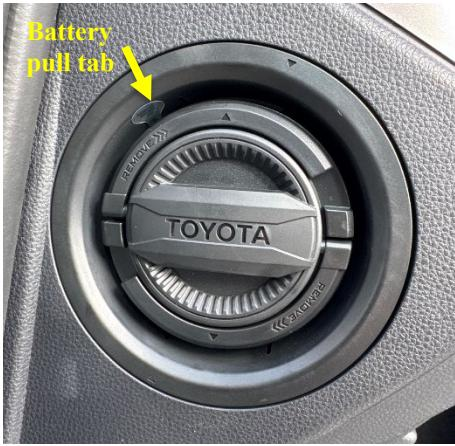

Fig. 3-2
- (b) Leave battery pull tab in place (Fig.3-2).